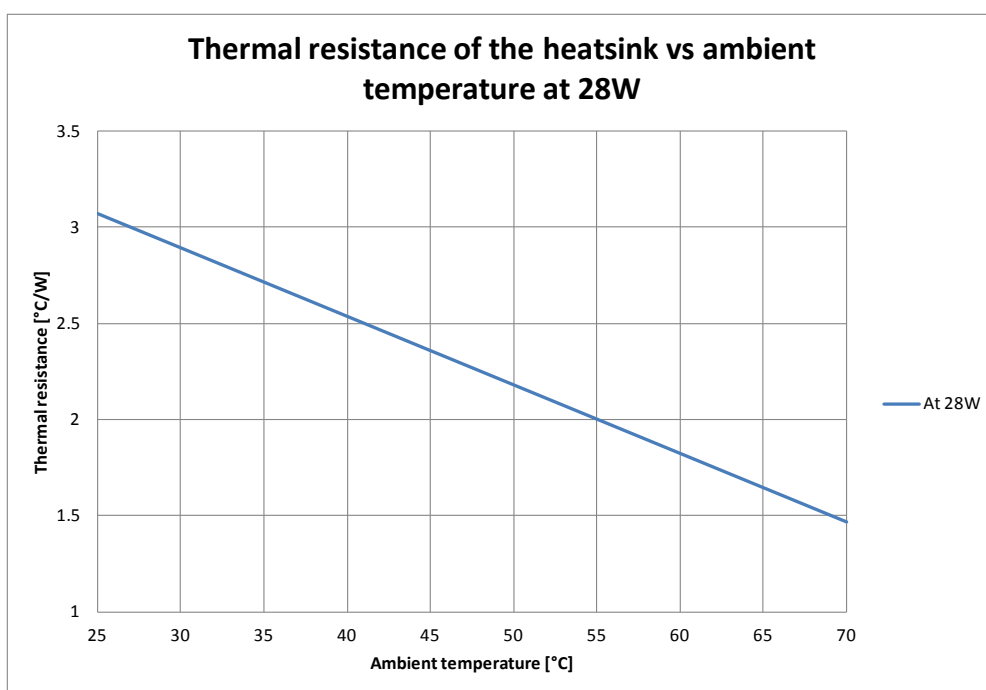

Figure 8-3: Maximum thermal resistance depending on the ambient temperature, at 28W.
- ➔ At 28W, depending on the ambient temperature, on the Figure 8-3.